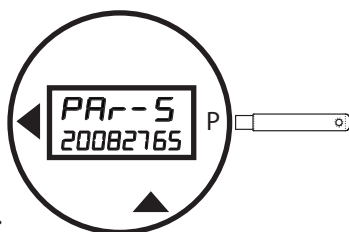

Figure 20.
- Pass the wand over the **P** once to advance to the second menu level. The selection **PAR-S** with the meter's serial number will appear (Figure 20). This is the first item in the second menu level.